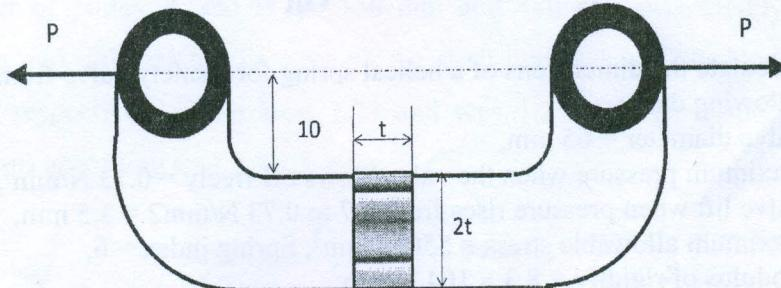

Fig.1
- [F] An offset link subjected to load of 25 KN as shown in fig.1. it is made of FG300. [5]